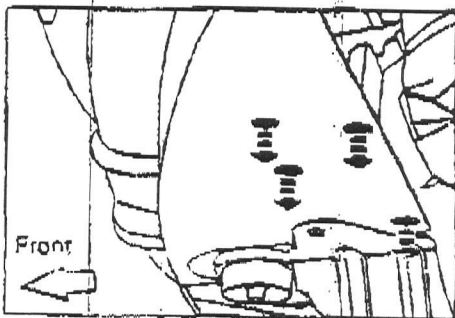

Fig. 2
4. Remove the four fasteners located underneath the vehicle that attach the splash guard and the splash trim. (See Fig. 2)